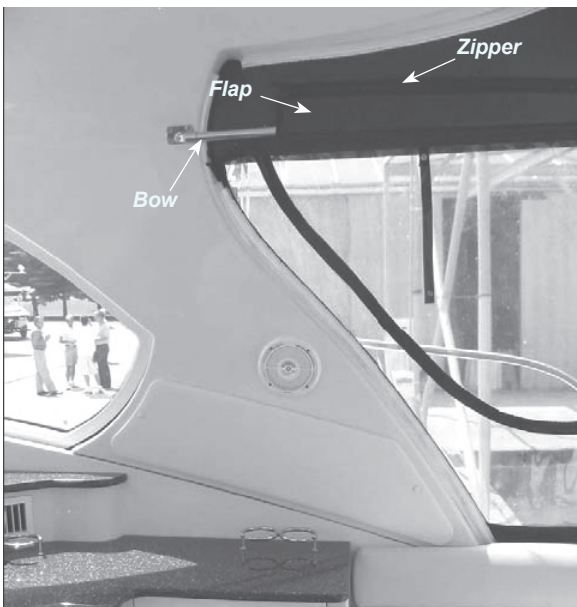

Figure O11: Zippered-Flap Portion of Canvas Top
- 5) Place the canvas top over the bow. Wrap the zippered-flap portion of the top around the bow and zip securely in place. See Figure O11.